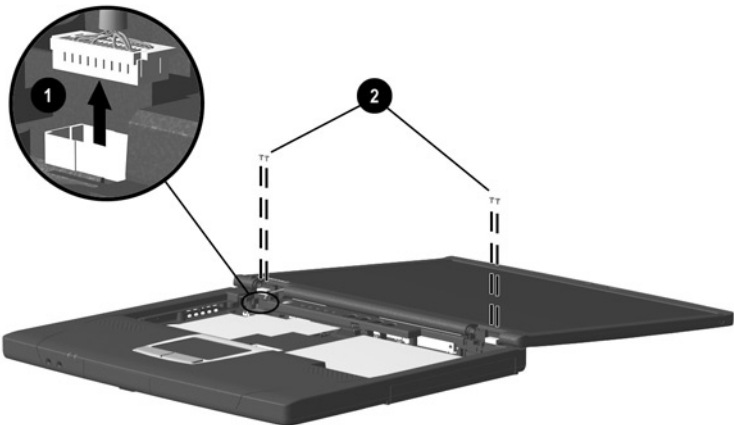

Figure 5-5. Removing the Display
3. Disconnect the display cable ❶ from the system board (Figure 5-5).
4. Remove the four silver M2.5 × 8.0 screws ❷ that secure the display to the base enclosure.